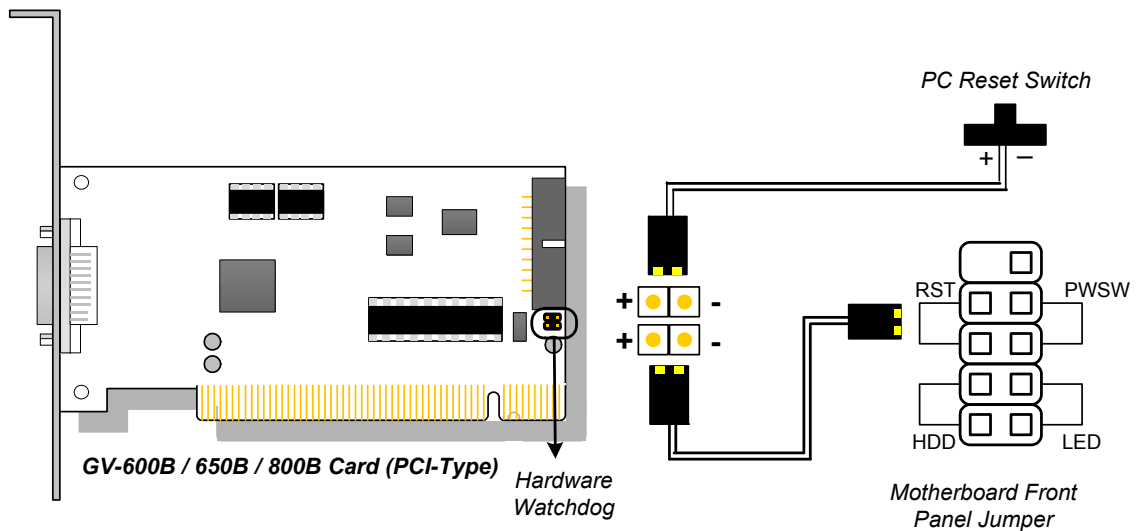

Figure 1-54
- Connect the supplied Hardware Watchdog Jump Wire (Figure 1-54).
- **Hardware Watchdog Connection:** Connect the supplied Hardware Watchdog Jump Wire to the Master Card only (Figure 1-54).